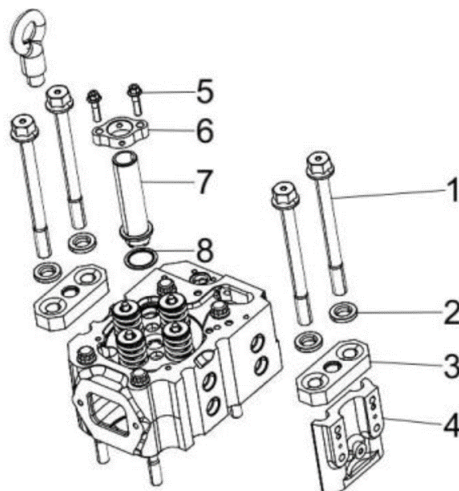

Figure 60. Cylinder Head Assembly
2. Remove the cylinder secondary bolts (Figure 60, item 1). Remove the gasket (Figure 60, item 2), clamping block (Figure 60, item 3) and end plate (Figure 60, item 4).
3. Loosen the bolts (Figure 60, item 5) and remove tube clamp (Figure 60, item 6).
4. Remove the ignition coil bush (Figure 60, item 7) and the gasket (Figure 60, item 8).